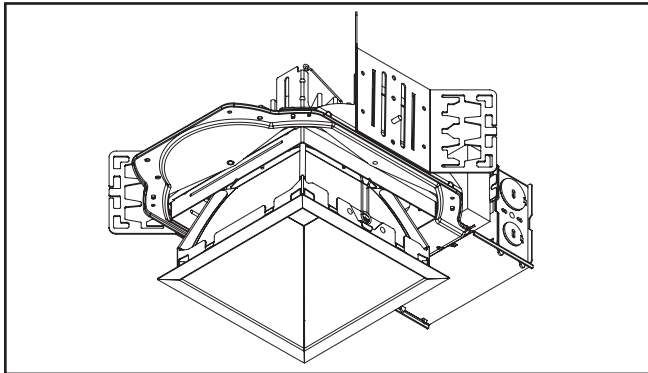

Figure 9
9. Install the LED engine and trim assembly by inserting the torsion springs into the spring receivers located inside the housing (Figure 9.).
- Remove trim assembly from the housing (Figure 9.).